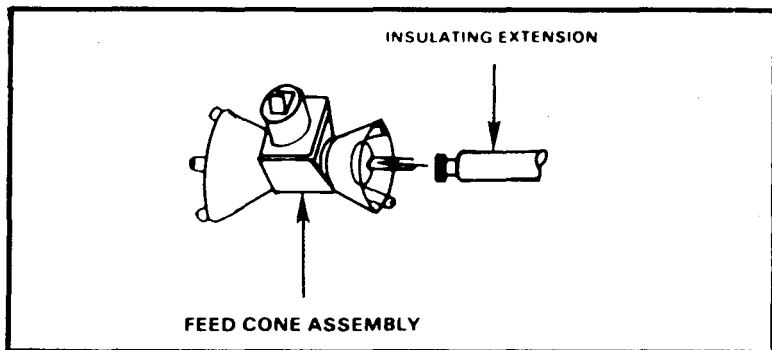

Figure 3-9. Connecting insulating extension to feed cone assembly.
a. Coat the threaded portion of the insulating extension with silicone compound (Figure 3-9).